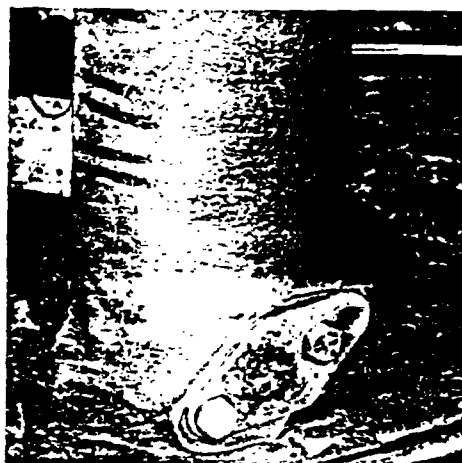

Figure 2-307. Installing Oil Outlet Plate
2. Install a steel plate with a rubber gasket on the oil outlet opening. See Figure 2-307.